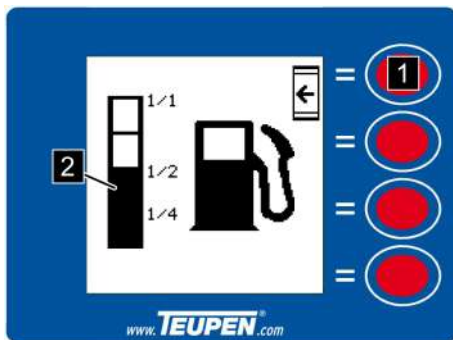

Fig. 60: Fuel indicator
The fuel level is indicated on the column (Fig. 60/2).
- ➔ Using the [function key] (Fig. 60/1) return to the [main menu].